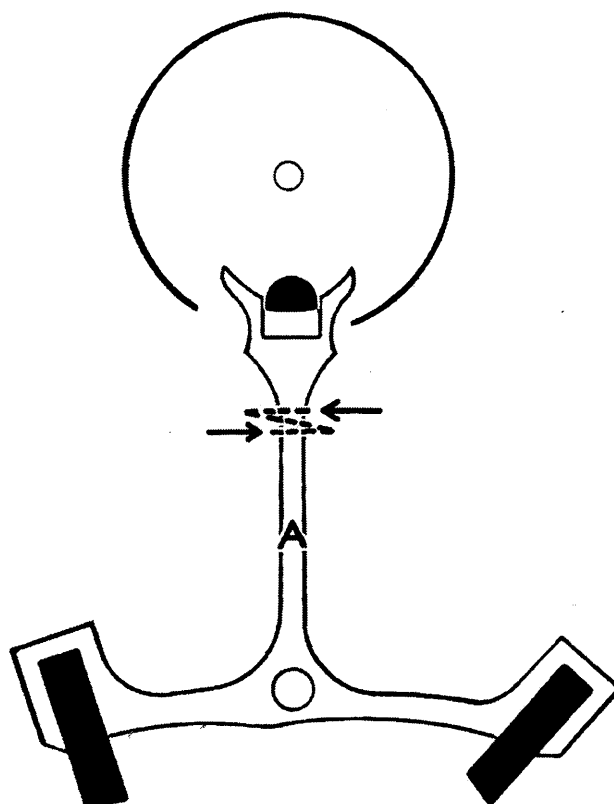

Fig. 26-1
- B. Turn balance until the roller jewel is in line with the slot in the fork, figure 26-1.